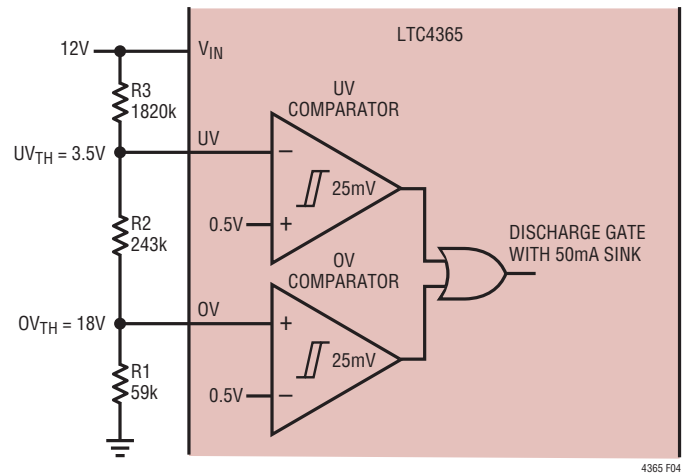

Figure 4. UV, OV Comparators Monitor 12V Supply
The LTC4365 provides two accurate comparators to monitor for overvoltage (OV) and undervoltage (UV) conditions at V_{IN} . If the input supply rises above the user adjustable OV threshold, the gate of the external MOSFET is quickly turned off, thus disconnecting the load from the input. Similarly, if the input supply falls below the user adjustable UV threshold, the gate of the external MOSFET also is quickly turned off. Figure 4 shows a UV/OV application for an input supply of 12V.
The external resistive divider allows the user to select an input supply range that is compatible with the load at V_{OUT} . Furthermore, the UV and OV inputs have very low leakage currents (typically $< 1nA$ at $100^\circ C$), allowing for large values in the external resistive divider. In the application of Figure 4, the load is connected to the supply only if V_{IN} lies between 3.5V and 18V. In the event that V_{IN} goes above 18V or below 3.5V, the gate of the external N-channel MOSFET is immediately discharged with a 50mA current sink, thus isolating the load from the supply.
The following 3-step procedure helps select the resistor values for the resistive divider of Figure 4. This procedure minimizes UV and OV offset errors caused by leakage currents at the respective pins.
The example of Figure 4 uses standard 1% resistor values. The following parameters were selected: